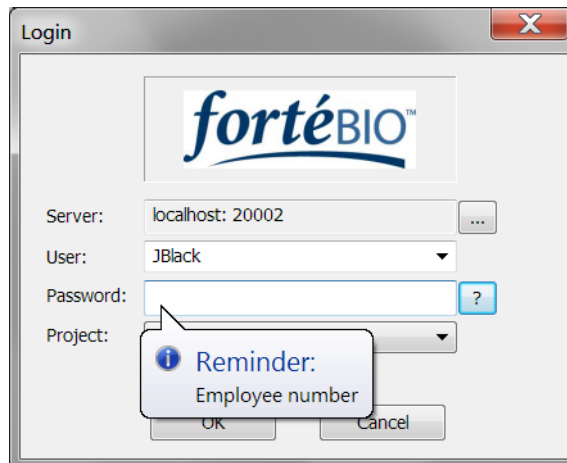

Figure 3-8: Password Reminder Option
4. Enter your password in the **Password** field. Click ? for a password reminder if needed (Figure 3-8). (For the first time logging in, leave the **Password** field blank.)